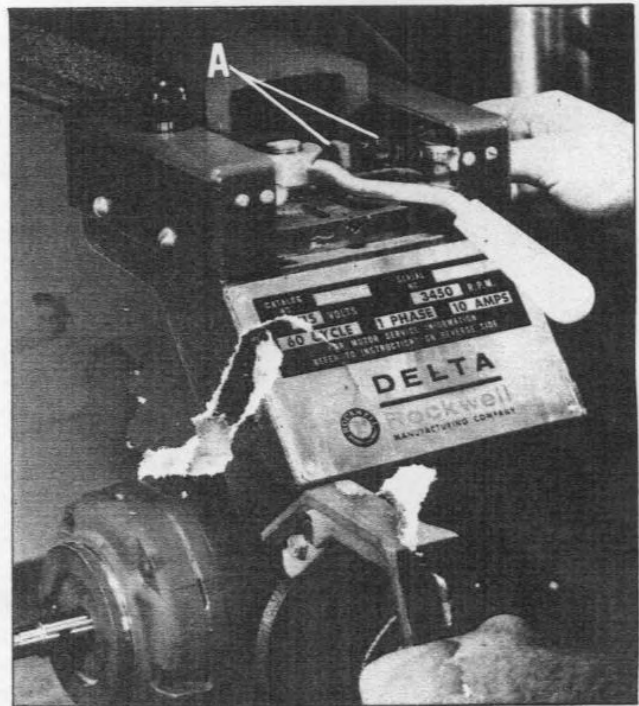

Fig. 8
2. Place the rip lock (A) Fig. 8, in position with jaws open and slip the cuttinghead in the track-arm as shown.